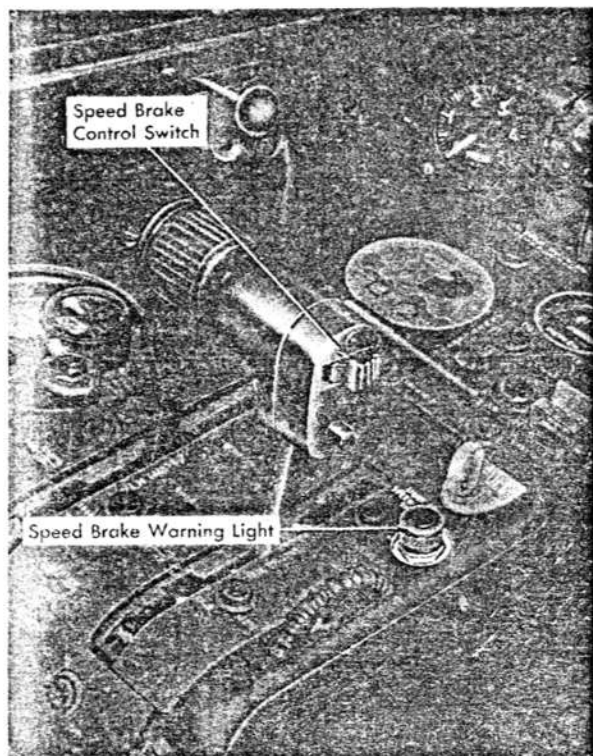

Figure 1-25. Speed Brake Controls
**SPEED BRAKE CONTROL SWITCH.** The speed brake control switch (figure 1-25) is a three-position thumb switch located on the right-hand throttle handle. The positions of the switch are aft-for-open (momentary), center-for-stop, and forward-for-close. Moving the switch aft energizes the two solenoids on the selector valve which positions the valve to open the brakes. Releasing the switch positions it in the stop position, energizing one solenoid on the selector valve which closes all the valve ports. This feature allows intermediate positioning of the speed brakes anywhere between the fully closed and the 40-degree fully opened position. Moving the switch forward de-energizes both solenoids of the selector valve and positions the valve to close the brakes.
**SPEED BRAKE WARNING LIGHT.** A red push-to-test warning light (LIGHT ON — SPEED BRAKE OPEN) is located on the left-hand console (figure 1-25). The warning light is actuated by microswitches at each speed brake when either brake is open more than 1/2 inch.